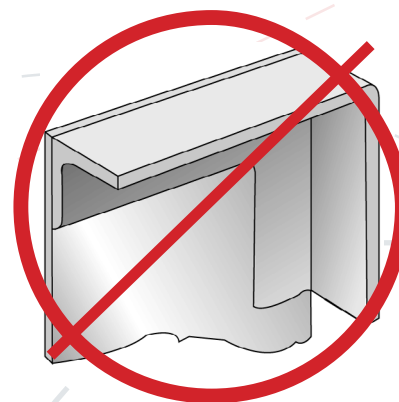

Figure 6: Avoid uneven thickness at joints
- Use parts in an assembly of equal or near equal thickness, especially at joints (Figure 6).